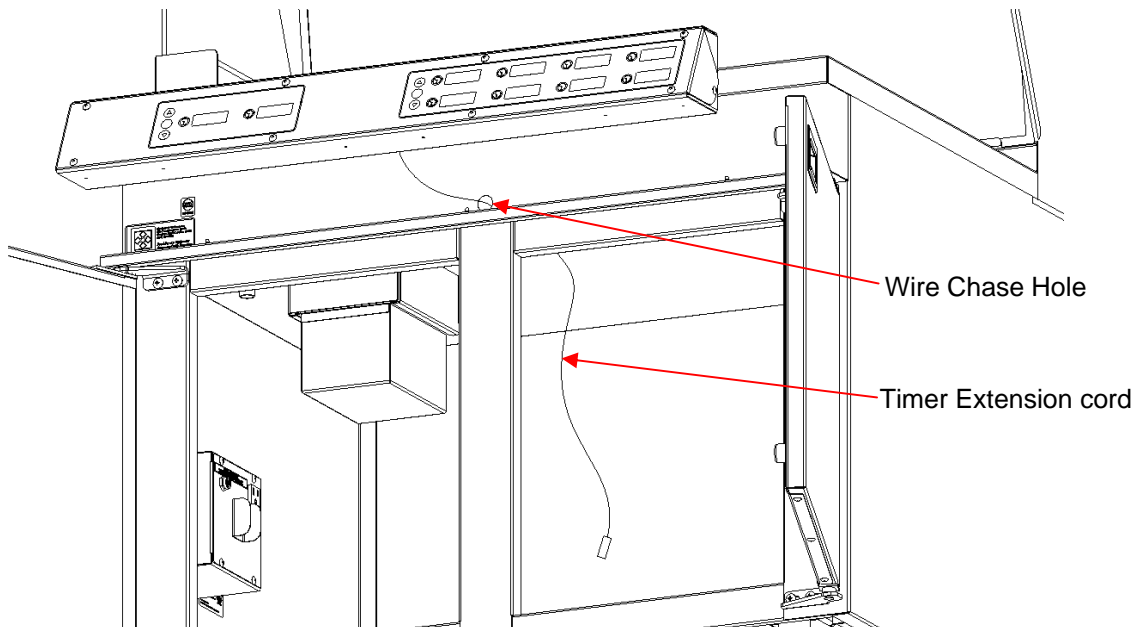

FIGURE 3C - Timer Extension Cord Routing
2. Carefully slide in place the timer box by routing its extension cord through the cabinet wire chase hole (figure 3C). Make sure that the cord is not pinched between the timer box and the cabinet frame as you slide it in place.